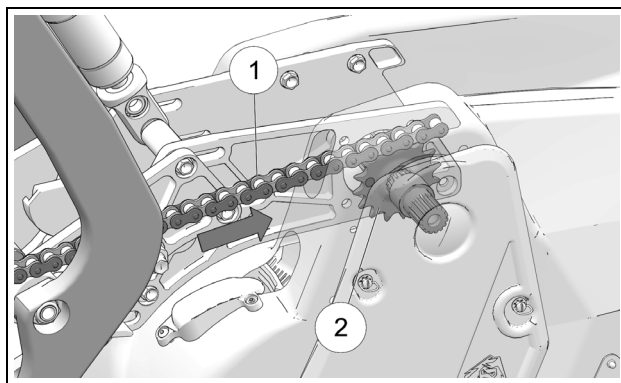

Figure 29
- Insert chain (1) in upper opening at the front of the system and feed it over jack shaft drive sprocket (2). See Figure 29.